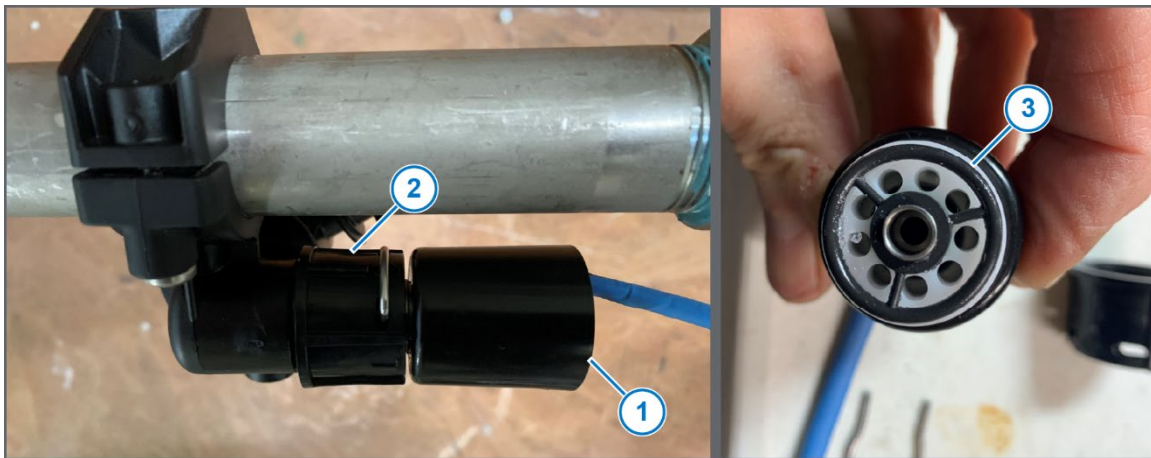

Figure 1
Figure 1: Hold the coil (1) stationary while tightening the flynut (2). If the coil is rotated while tightening the flynut, damage to the spoke O-ring (3) can occur and cause the valve to leak.